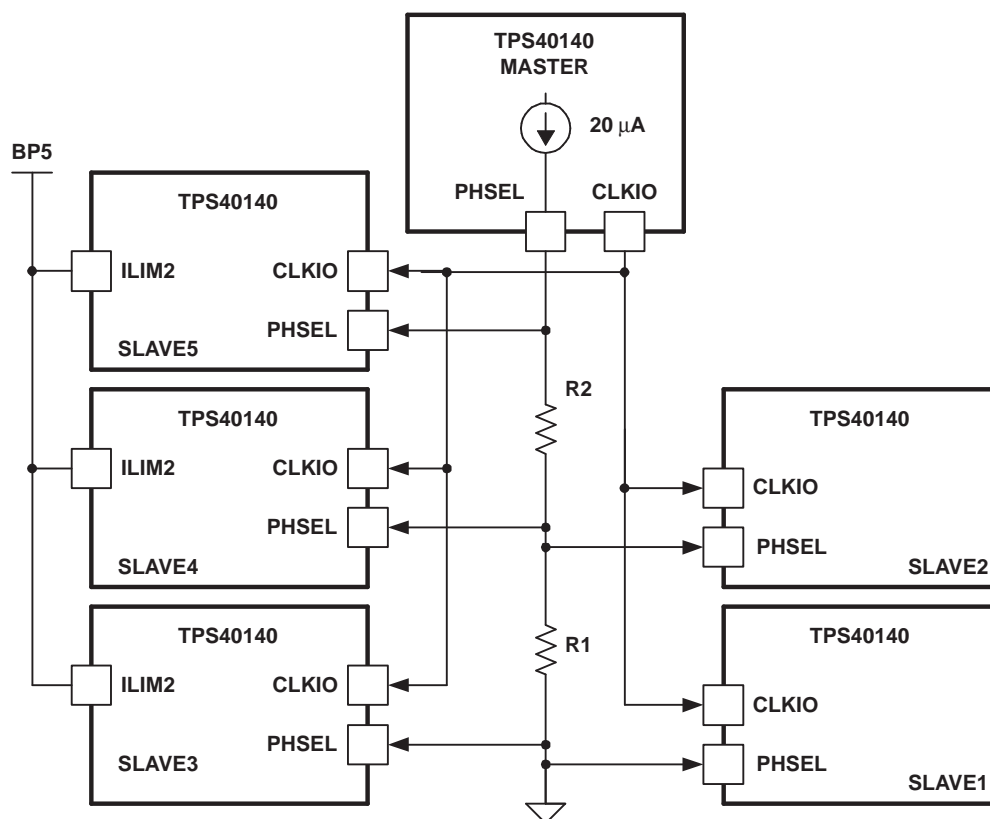
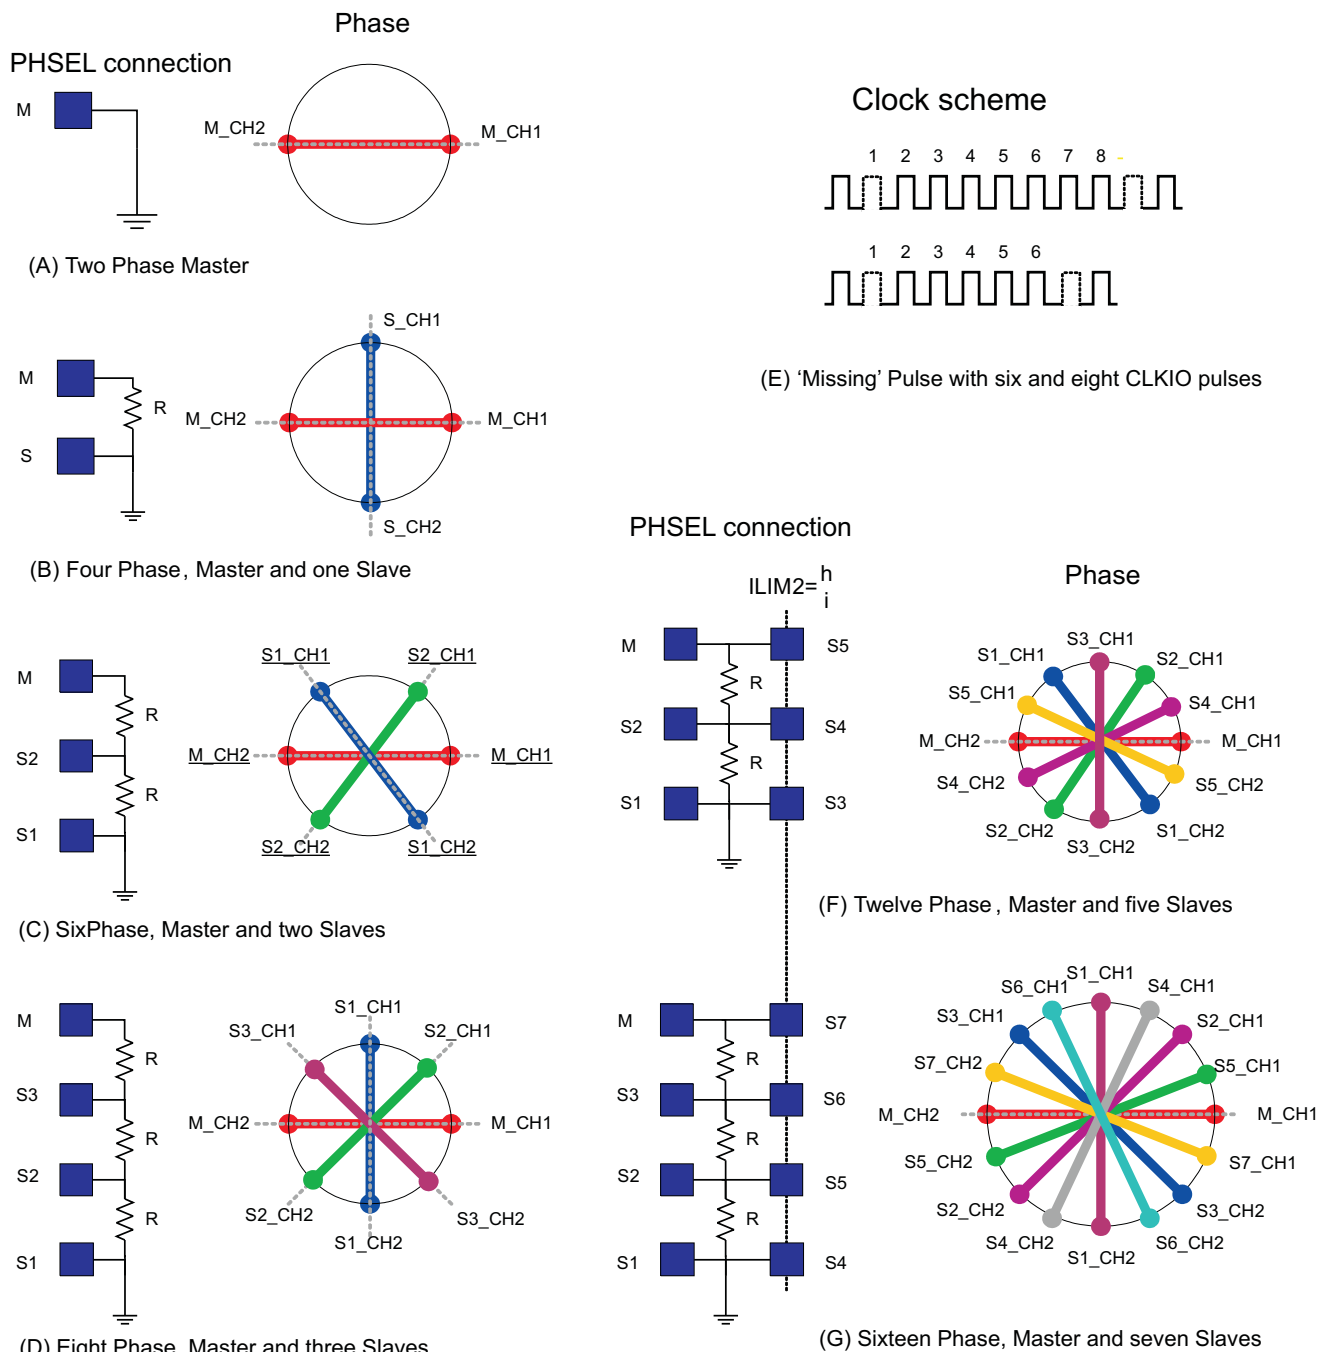

Figure 5-18. Master Controller and Five Slave Controllers, 12 Phases
Figure 5-20. Clock Phasing Summary
To further increase the total current capability to twelve phases, or to increase the number of outputs, five Slave controllers can be added as shown in Figure 5-18
If 4 Slaves are desired, just delete one of the Slaves from Figure 5-18. The interleaving will not be perfect because there will be 30 degrees between the Master and 3 Slaves. The deleted Slave will cause 60° between the 2 adjacent Slaves. See Figure 5-20 for phasing details.
In this configuration, the Master senses that there are three Slave controllers (due to the 3 resistors) and distributes an eight-phase CLKIO signal. Slaves 1, 2 and 3 are turned on at 45° and 90° respectively as before with 3 Slaves. However, to get 16 phases with an 8-phase clock, both edges of the CLKIO signal are used to control the slaves. With the ILIM2 tied high on Slaves 4, 5, 6, and 7 they turn on at the rising edge of CLKIO, while the Master and Slaves 1, 2, and 3 turn on at the falling edge of CLKIO. If 6 Slaves are desired, just delete one of the Slaves from Figure 5-19. The interleaving will not be perfect because there will be 22.5° between the Master and 3 Slaves. The deleted Slave will cause 45° between the 2 adjacent Slaves. See Figure 5-20 for a phasing details.
Figure 5-20 is a summary of the Master and Slave clock phasing. The Master and the Slaves can be selected to be a multi-phase, single output configuration and/or several independent output voltage rails, independent of the clocking.
The solid square boxes in Figure 5-20 represent the PHSEL pin of the Master (M) controller or a numbered Slave controller (S1-S7). The labels on the spokes of the wheels indicate a Master Channel 1 and Master Channel 2 (M_CH1 and M_CH2) and numbered Slaves Channel 1 and Slave Channel 2 (Sn_CH1 and Sn_CH2). The Channel 1 and Channel 2 of a given Master or Slave is always 180° out of phase.
The 3-phase system could also be configured with 1 channel of the Master and 2 channels of the Slave. Referring to part (B) above, the 3 phases could be Master CH1 or Master CH2 and Slave CH1 and Slave CH2. In either of these configurations there will be 90° between two of the channels and 180° between the other channel. The unused channel could be another independent output voltage whose clocking would occupy the phase not used in the 3-phase system. This philosophy can be used for any number of phases not shown in Figure 5-20, *Clock Phasing Summary*.